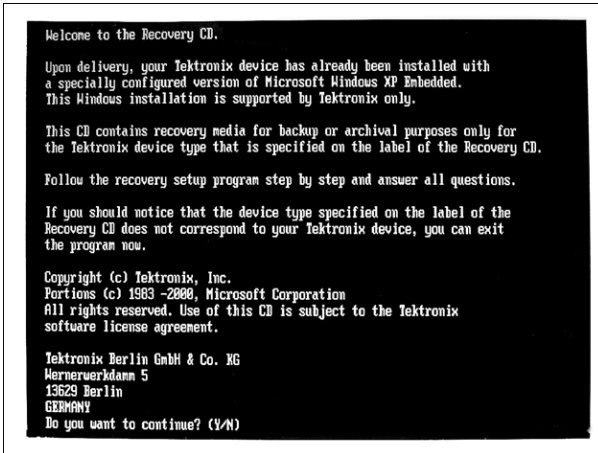

Figure D-1: Recovery CD Welcome screen
9. Confirm by pressing <Y> and <Enter>. The instrument boots from CD-ROM and the Recovery CD Welcome screen will appear. See Figure D-1.